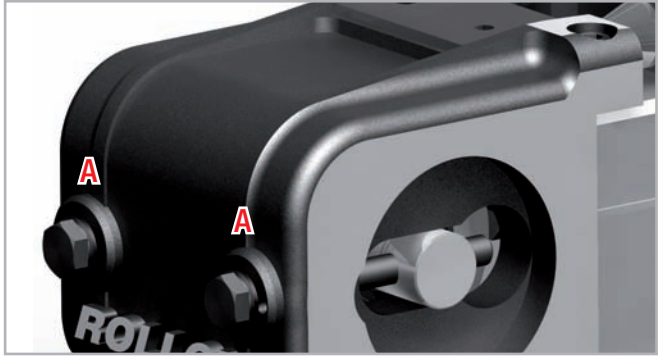

Fig. 97
2. Figure 97 shows how far the belt deflection pulley must be offset at the deflection head via the set screws A, in order to obtain the desired belt tension.